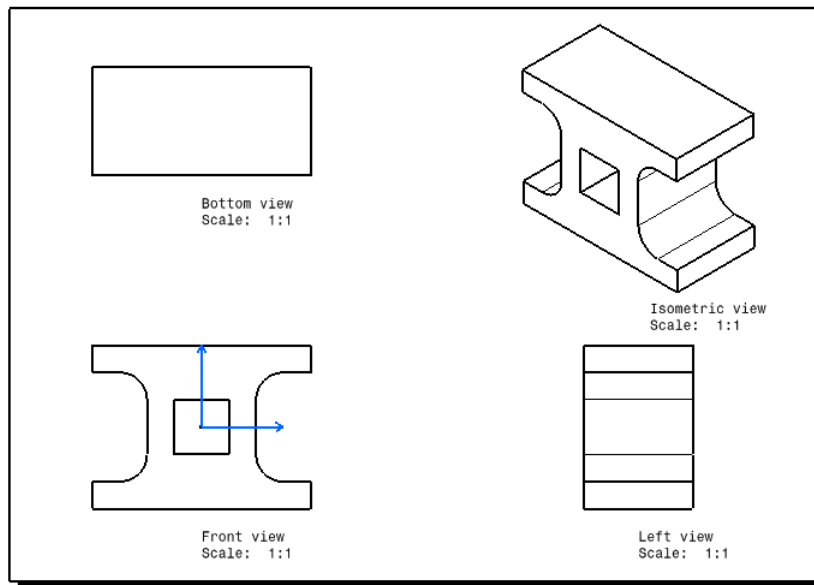

Figure 2-81 Drawing sheet after generating the drawing views
13. Click anywhere on the drawing sheet to generate the isometric view. The drawing sheet after generating the isometric view is shown in Figure 2-81.